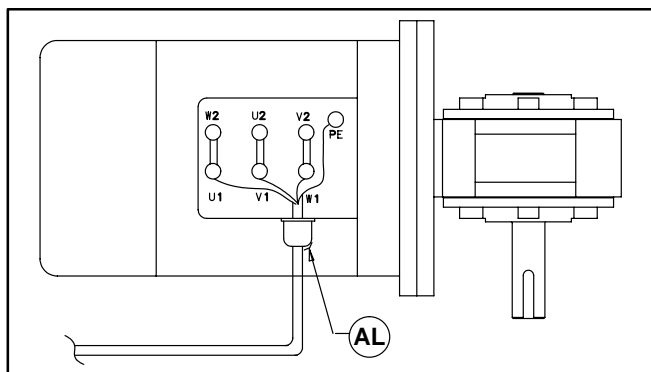

Figure 21
- b. Record wire colors on terminals U1, V1, W1 & PE (Figure 21). Loosen terminals U1, V1, W1 & PE and remove wires.
- c. Loosen cord grip (AL of Figure 21) and remove cord.